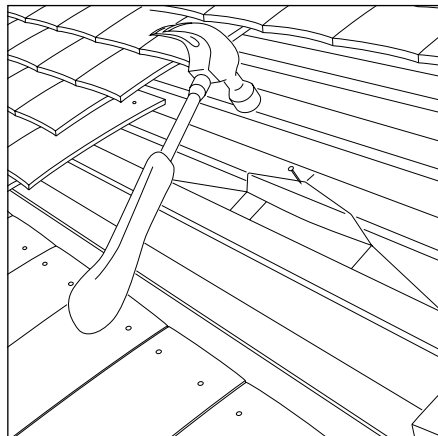

Fig. 3
- 2 The top and side underlay triangular shapes should be folded outward and underneath the ventilator. The top triangle should be tacked to the batten above (Fig. 3).